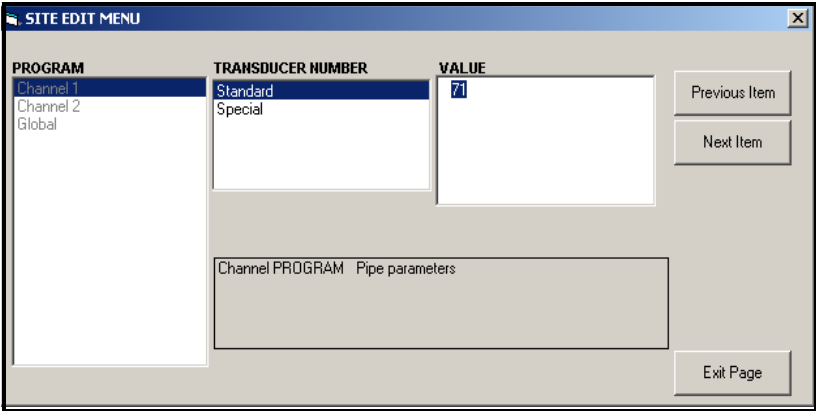

Figure 43: The Pipe Parameters Option in the Site Edit Menu
- a. Highlight and double-click on the desired option in the center pane. Figure 43 on page 27 shows the first entry (Transducer Number) in the *Pipe Parameters* option. The title above the center pane lists the current entry, while the center pane displays the available selections for that entry.